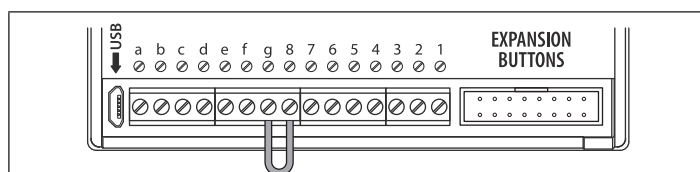

Fig. 63
2. Put a short across terminals **g** & **8** on the back of the GSM module, as shown in **Fig.63**.